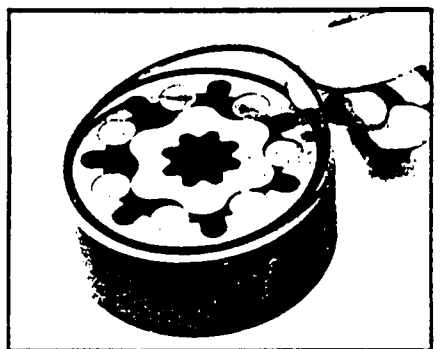

Figure 48
16. Place assembled rotor set (6) on a clean work surface with the stator (6B) seal ring groove up. Apply a small amount of clean grease to a new seal ring (5) and insert the seal ring into the stator (6B) seal ring groove. SEE FIGURE 48.